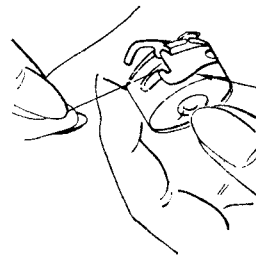

Fig. 7
3. Insert bobbin into bobbin case, pull the thread into the slot of the bobbin case as shown in Fig. 6 and then draw it under the tension spring and into the fork-shaped opening of the spring as seen in Fig. 7.